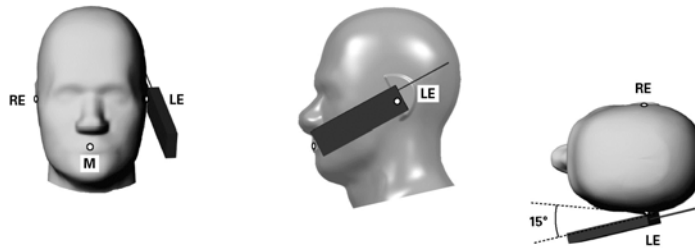

Figure 7.3 Front, Side and Top View of Ear/15° Tilt Position
3. While maintaining the orientation of the device, move the device parallel to the reference plane until any part of the device touches the head. (In this position, point A is located on the line RE-LE). The tilted position is obtained when the contact is on the pinna. If the contact is at any location other than the pinna, the angle of the device shall be reduced. The tilted position is obtained when any part of the device is in contact with the ear as well as a second part of the device is in contact with the head (see Figure 7.3).